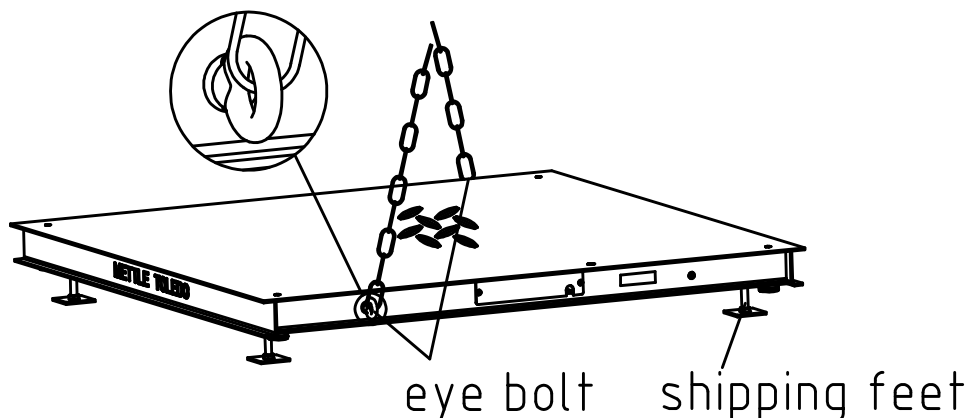

Fig. 3-1 Package Scrap View
- 3.1.2 Install the two eyebolt into opposing sides of the floor scale, see Figure 3-1;